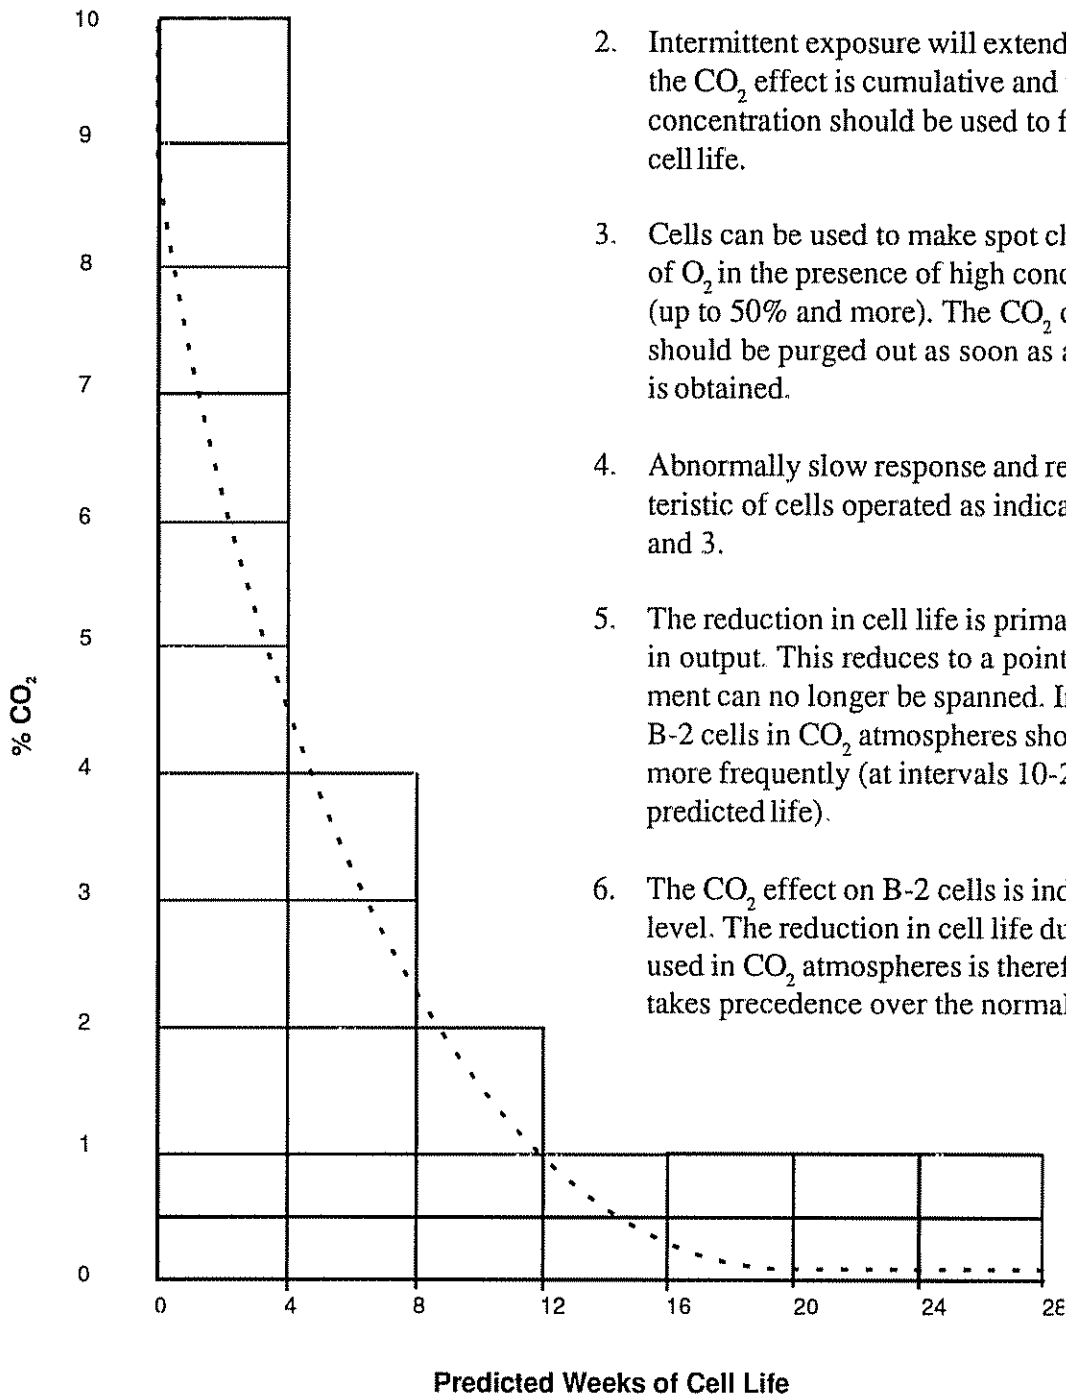

Figure 3-1: Effect of CO₂ on Cell Lifetime
The Class B-2 cell used in the Model 318R is warranted for six (6) months of service. The B-2 cell should not be used in applications where CO₂ is a major component in the sample. See Figure 3-1 for the effect of CO₂ on cell life. Concentrations of 1,000 PPM or less will not effect the cell performance. Alternative cells are available for either intermittent or continuous CO₂ exposure. See Section 2.1 for a description of alternative cell classes available.